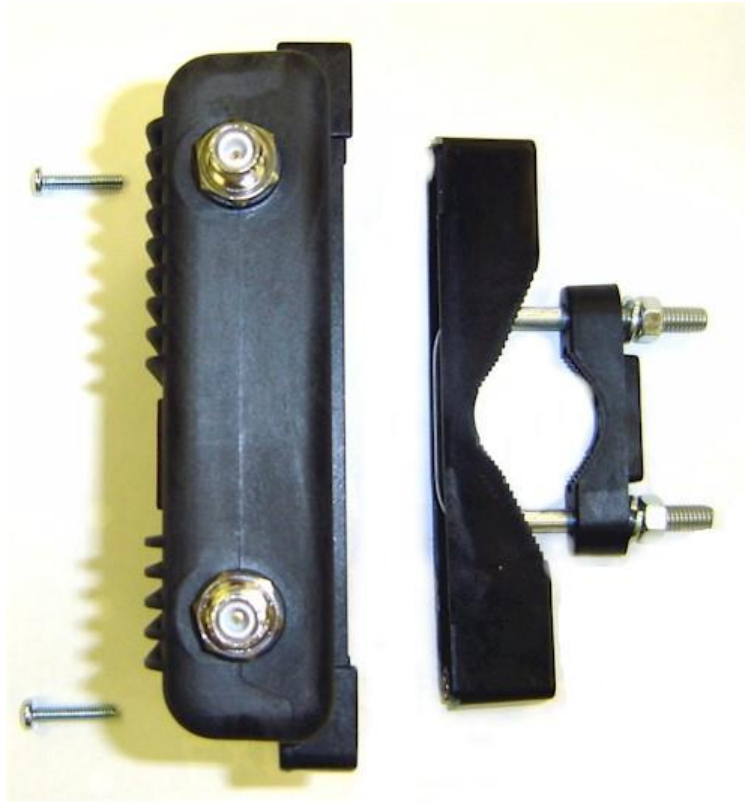

Figure 8: Pole Mount Connection to Case
6. Attach the two Pole Mounting Brackets to the ESTeem Horizon with the 10-24 x 1" Phillips Pan Head screws through the top of the heat shield. Reference Figure 8 (Heat Shield removed for detail).